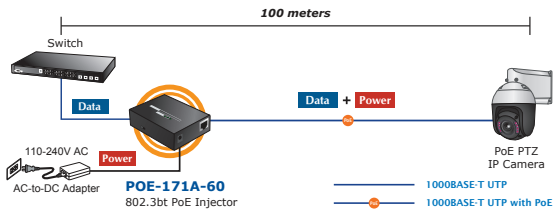

Figure 3: Architecture of Connected IEEE 802.3af/at/bt Devices
4. The POE-171A series, adopting the IEEE 802.3af/at/bt technology, can directly connect with any IEEE 802.3af/at/bt end-nodes, such as PTZ (Pan, Tilt & Zoom) network cameras, PTZ speed dome cameras, color touch screen, Voice over IP (VoIP) telephones and multi-channel wireless LAN access points. The screen in Figure 3 appears.